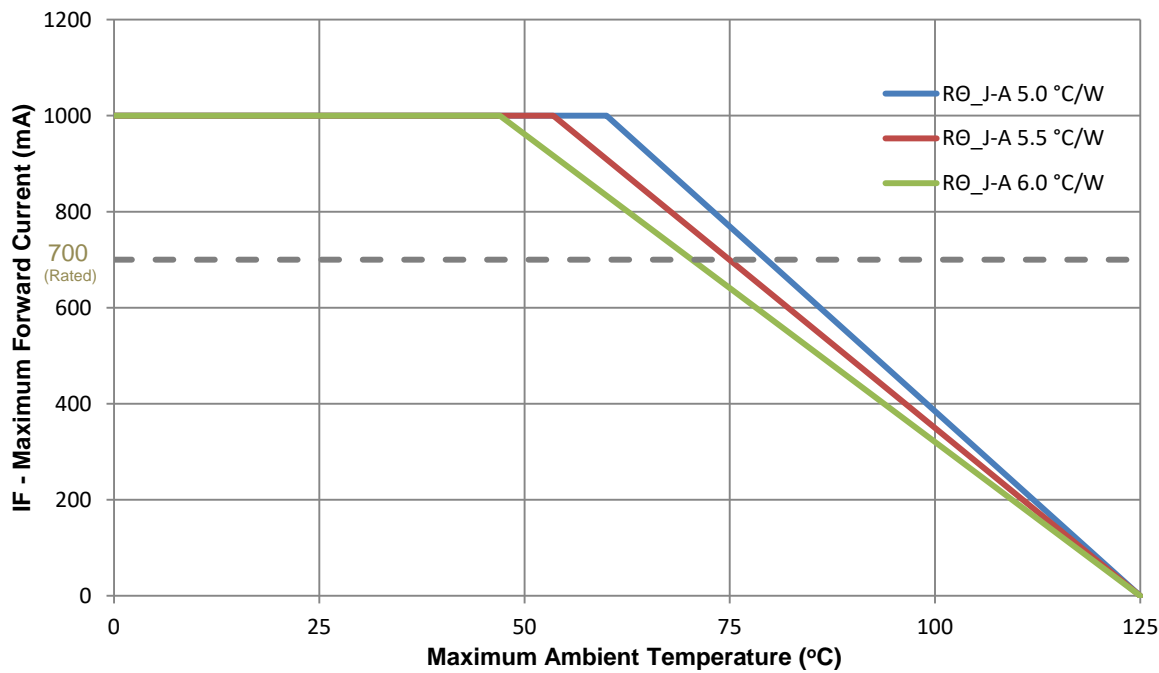

Figure 9: Maximum forward current vs. ambient temperature based on $T_{J(MAX)} = 150^{\circ}C$
- Maximum DC forward current (per die) is determined by the overall thermal resistance and ambient temperature. Follow the curves in Figure 9 for current derating.
Notes for Figure 9: